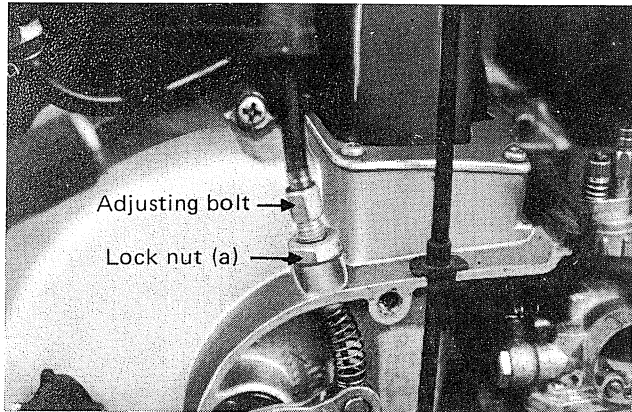

Fig. 3-8-13
- 3) Adjustment (Fig. 3-8-13)
- a. Loosen the lock nut (a) fitted on the crankcase cover (L).